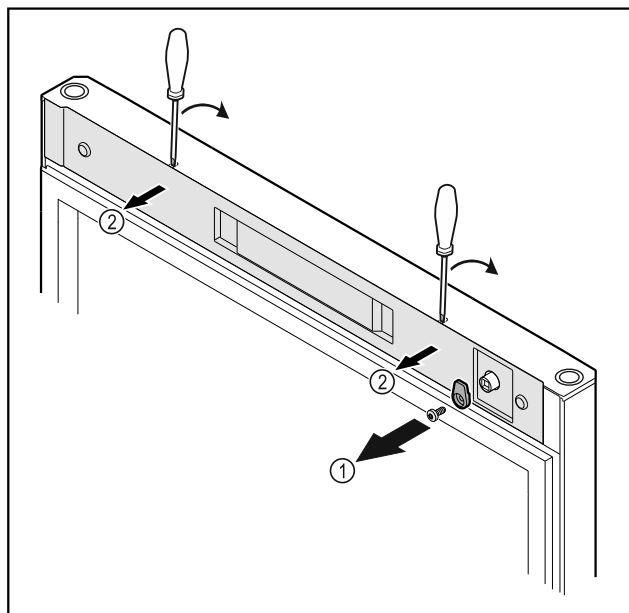

Fig. 8
- Unscrew the door latch Fig. 8 (1).
- Unlatch the cover Fig. 8 (2) with a small screwdriver and remove it.